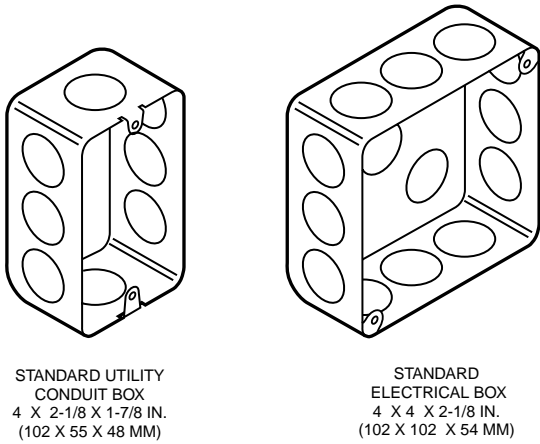

Fig. 27. Standard Utility Conduit Box and Standard 4 x 4 in. Electrical Box.
- Standard Utility Conduit Box CCT2967 (MVE2967) or Standard 4 x 4 in. Electrical Box CCT2960 (Fig. 27)